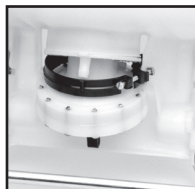

Figure 2
2. With unit laying on its back with pump assembly facing you, remove the pump rod (C). Loosen hose clamp and remove pressure hose (D). Next, loosen the clamp at the base of the sprayer (E). Figure 2.